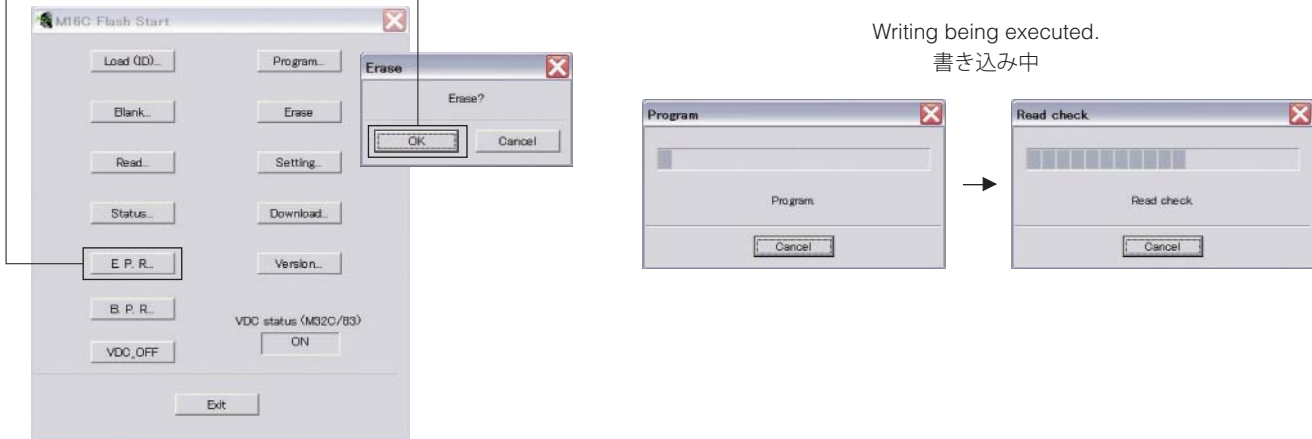

Fig. 6
7. Click [E.P.R.], then the "Erase" screen appears. (Fig. 6)
8. Click [OK] to start writing. (Fig. 6)
す。(Fig. 6)
(Fig. 6)